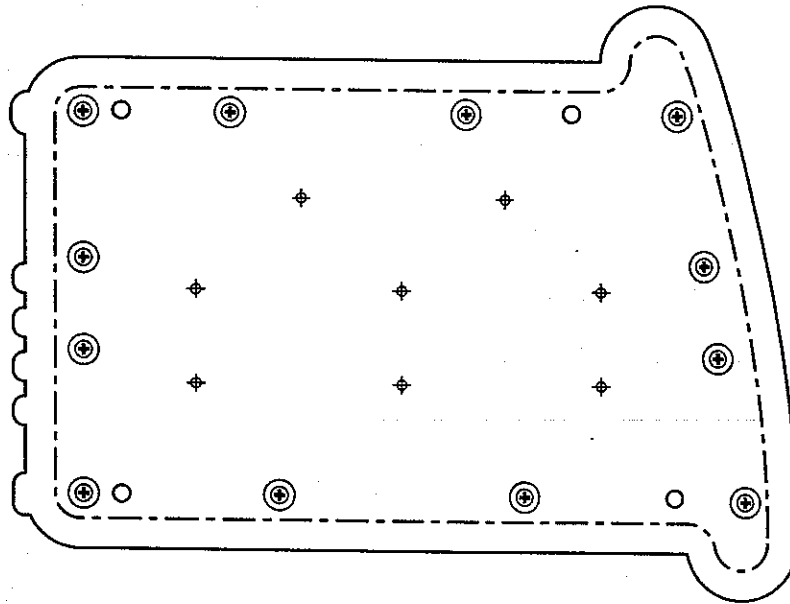

Figure 5-4. Protective Side Covers
- 4 Referring to Figure 5-4, remove the twelve (12) flat head screws from the reinforcing plate.